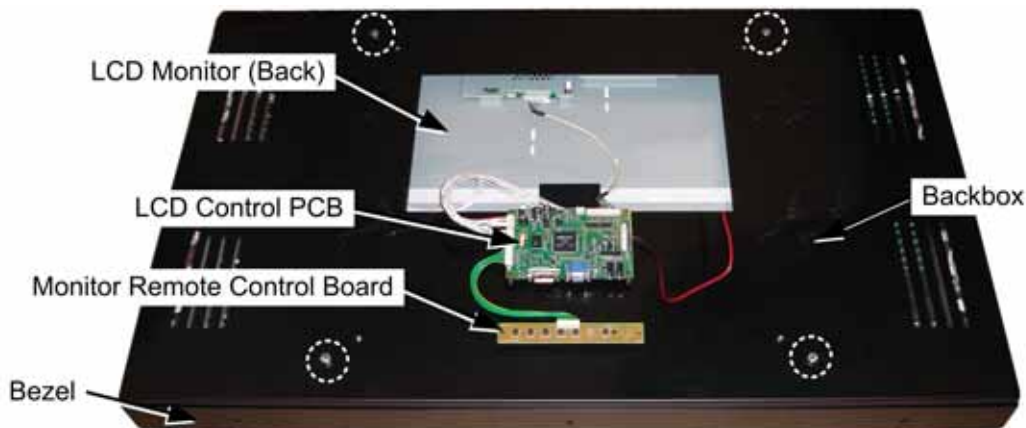

Figure 29. Monitor and Backbox Components (42" Cabinet)
10. Refer to Figure 29 for monitor assembly components. Carefully disconnect the three (3) wire harnesses that connect the LCD panel to the LCD Control PCB on the back of the assembly.
11. Remove the seven (7) screws that secure the bezel in place around the front of the monitor.
12. Remove the four (4) bolts from the back of the backbox (shown by the circles in Figure 29) and lift off the backbox with the attached LCD Control PCB and Monitor Remote Control Board.